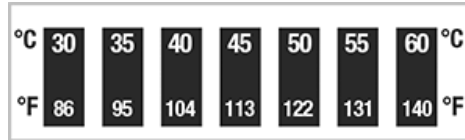

Figure 2
8. Install the thermometer decal (figure 2) to the underside of the fuel tank. If it indicates fuel is 131°F or higher, fuel odor may be a problem in confined spaces as well as fuel pump cavitation